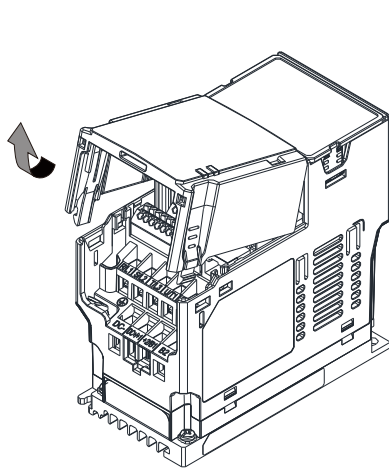

Figure 3-13
1. Turn off the power of the motor drive, and then remove the front cover, as shown in Figure 3-13.